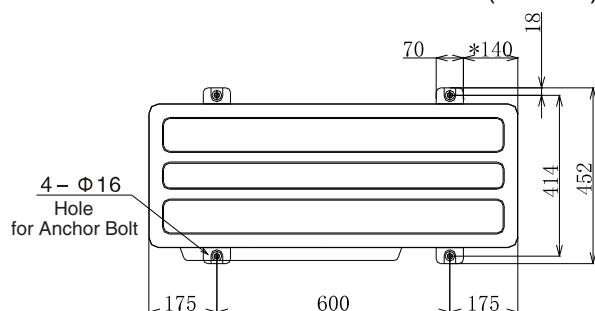

Fig. 4.3 Position of Anchor Bolts
(2) When installing the outdoor unit, fix the unit by anchor bolts. Refer to Fig. 4.3 regarding the location of fixing holes.